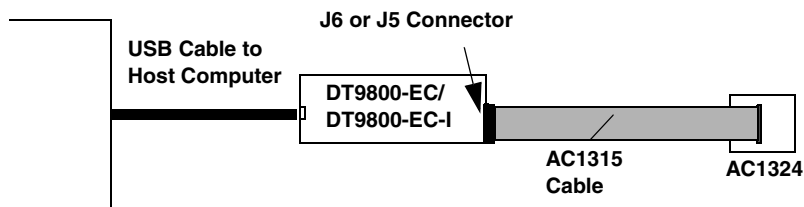

Figure 7: Connecting the AC1324 Screw Terminal Panel to the DT9800-EC or DT9800-EC-I Series Module
2. Plug the other end of the AC1315 cable into the 26-pin connector on the AC1324 screw terminal panel, as shown in Figure 7.